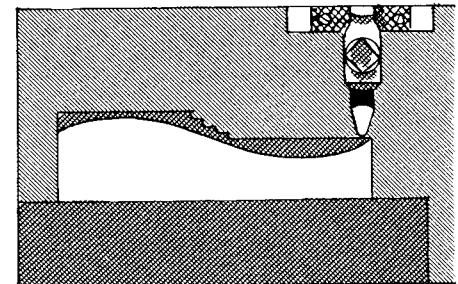

FIG. 509
12. Move the work and the tool until the point of the tool is about $1/16$ " from the place where the curve drops from the horizontal line (Fig. 509).